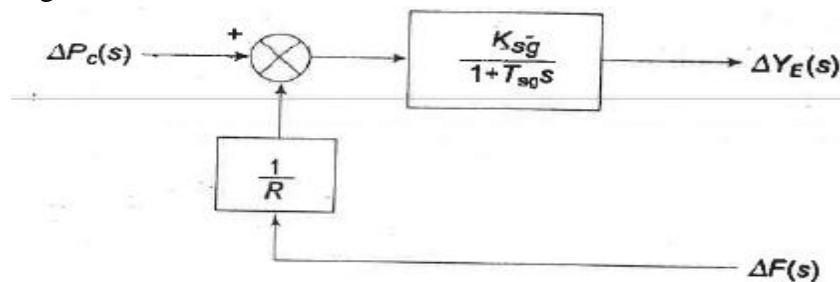
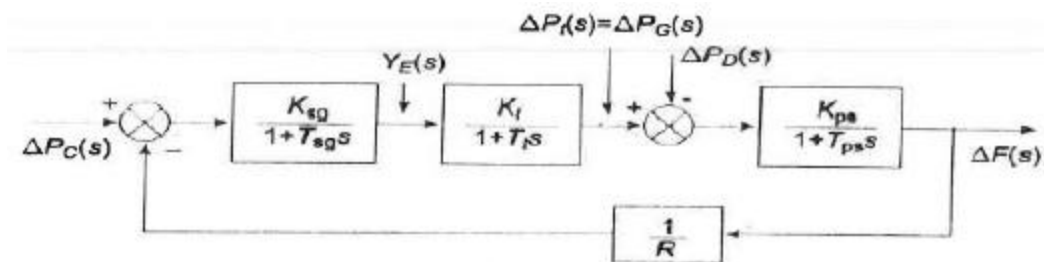

Fig: 8.1 Block diagram representation of speed governor system
Fig: 8.4. Block diagram model of load frequency control (isolated powers system)
**Model of speed governing system:** Block diagram of speed governing system is given below in the Figure 8.1.
**system:** A complete block diagram representation of a single area system comprising turbine, generator, governor and load is easily obtained by combining the individual components i.e. by combining Figs. 8.1, 8.2, 8.3. The complete block diagram with feedback is shown below in the Figure 8.4.